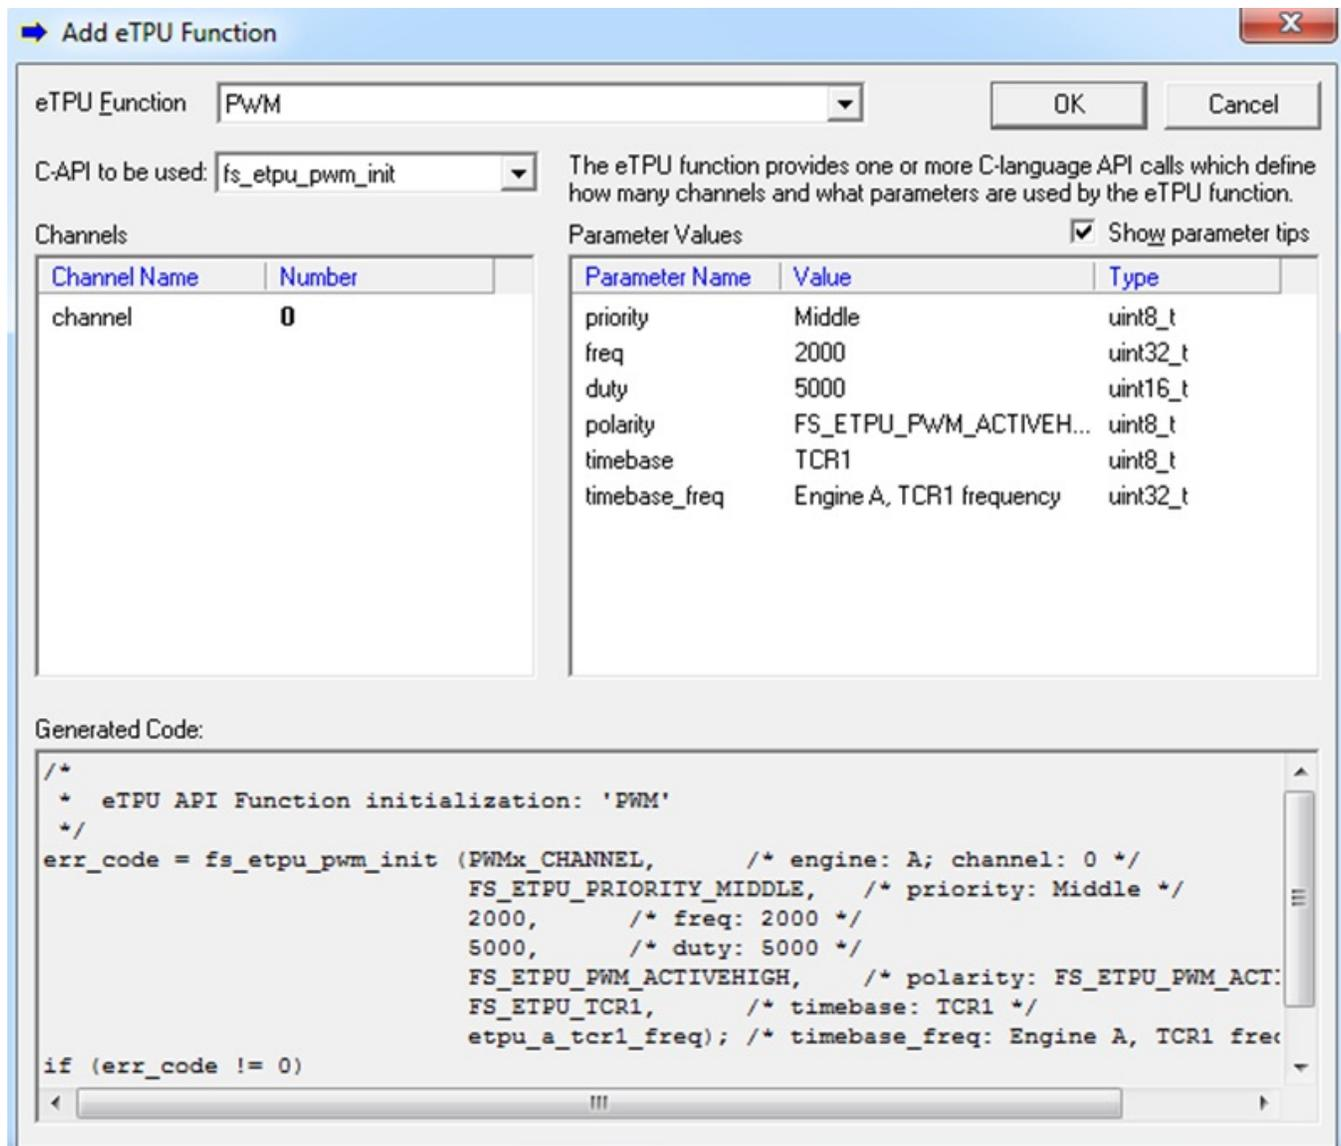

Figure 4. Configuring the Engine A channels
8. Configure the Engine A Channels, as shown in Figure 4.